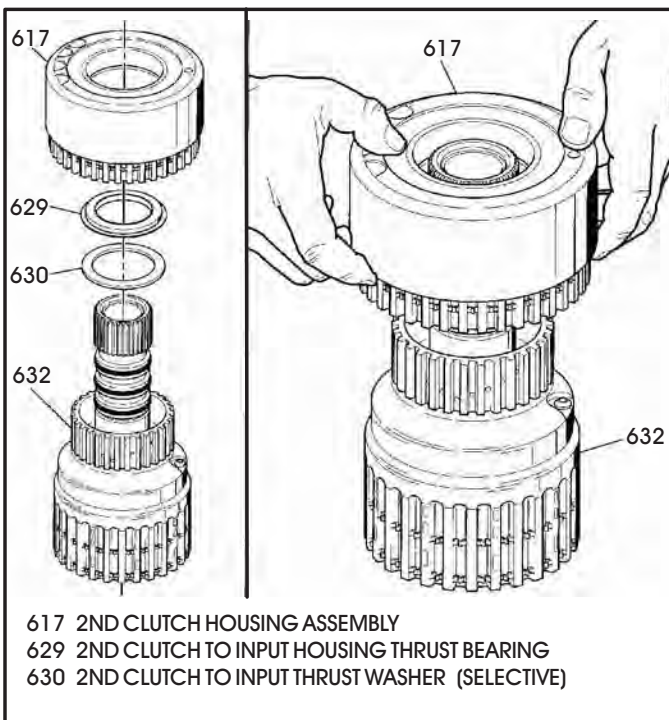

Figure 179
28. Set the completed input housing and sprags up on the sun gear, as shown in Figure 179.
29. Install the selective thrust washer into the input housing, as shown in Figure 179, and install the thrust bearing on top of selective washer in the direction shown in Figure 179.
30. Install the preassembled 2nd clutch drum onto input housing and rotate back and forth until fully seated against thrust bearing, as shown in Figure 179.